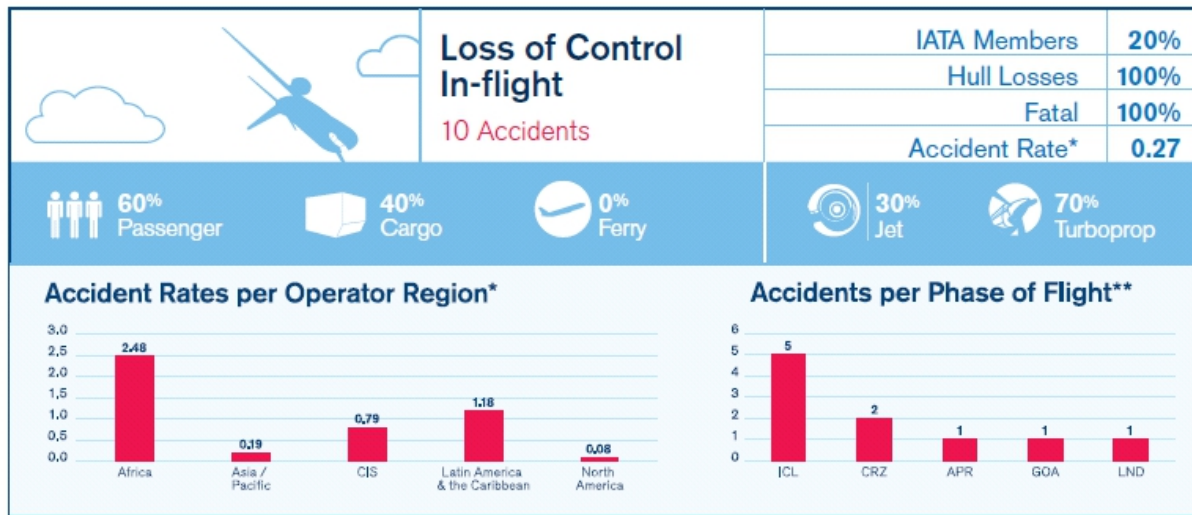

Figure 23: Example Loss-of-Control In-flight Accidents 2010 [4]
- Information on specific types of accident. I chose “Loss-of-Control-Inflight” as an example. This is the number one killer these days and has cost more than 2000 lives over the past ten years. This type of accident includes stalled aircraft with pilots unable to recover from a stall (Figure 23).